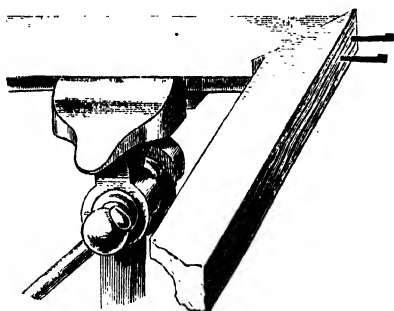

Fig. 491.—Nailing Picture Frames.
**Nailing Picture Frames.**—A usual method of nailing picture frames is as shown in Fig. 491. The faces of the mitres being glued, the loose side is placed against the fixed one so that the slip during the driving home of the nails brings the mitres true. When cramps are used the glue may be allowed to dry before the corners are nailed,